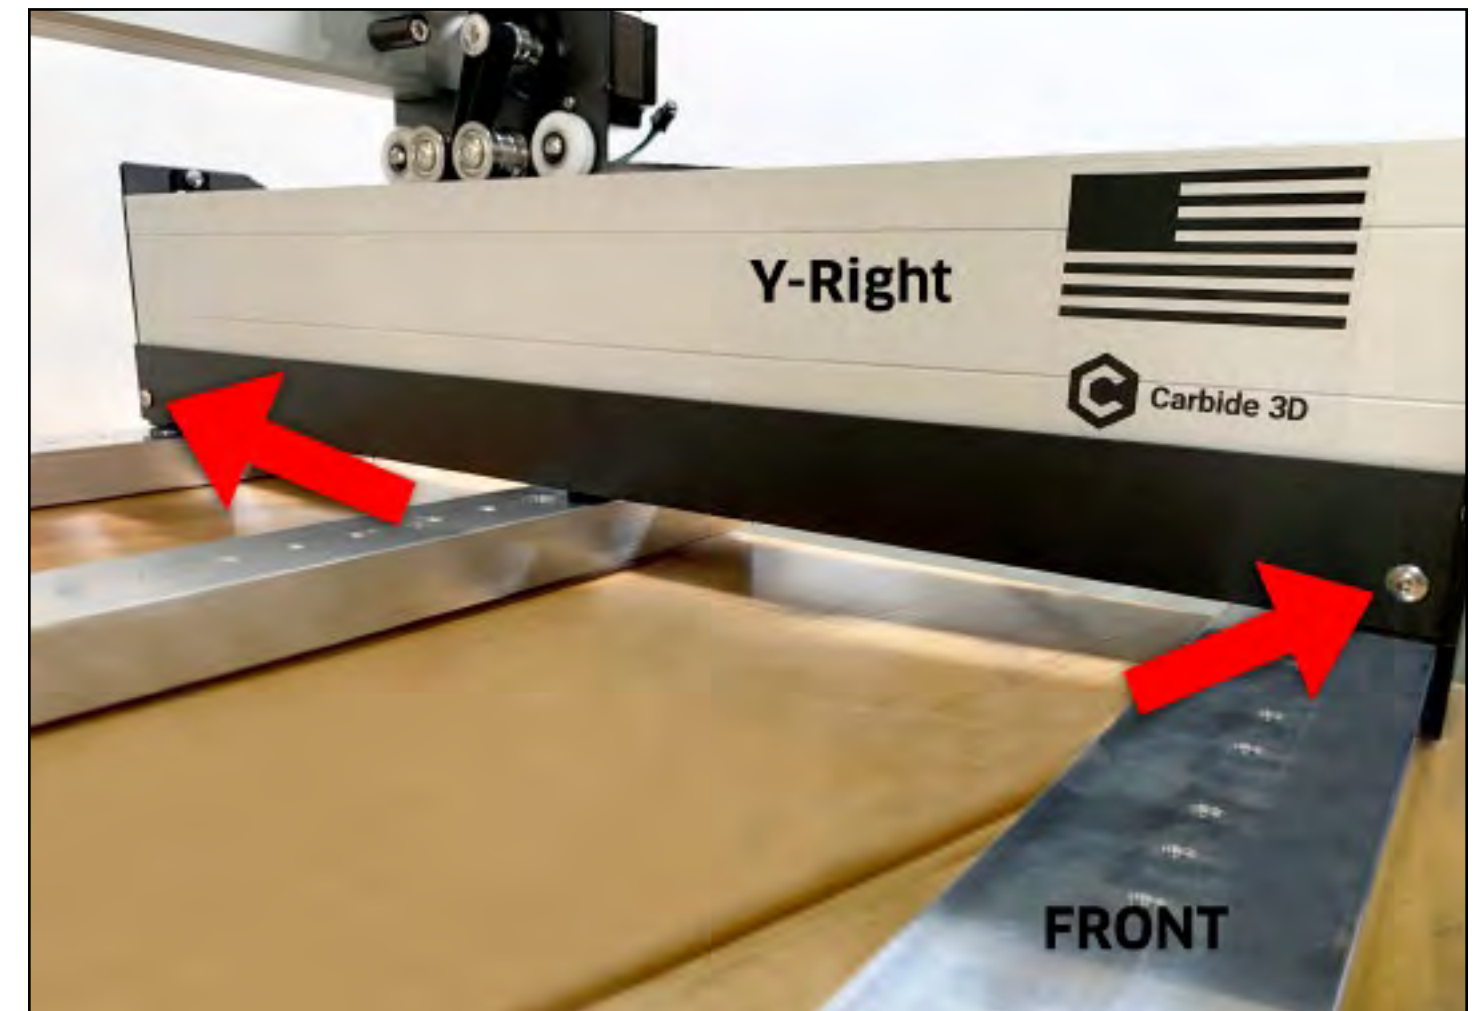

Figure 4-7
2. Position one side skirt along the bottom-inside edge of the Y-Right rail. See **Fig. 4-7**.
3. Use a 3mm hex key and two (2) M5×8mm BHCS to secure the skirt to the endplate flanges. Fully tighten.
5. Use a 3mm hex key and two (2) M5×8mm BHCS to secure the skirt to the endplate flanges. Fully tighten.